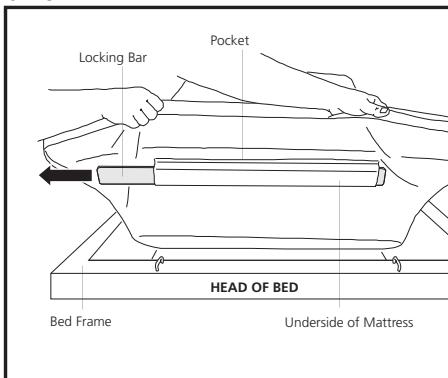

Figure 1
2. Slide locking bar located in pocket on underside of head-end of mattress to one side, as shown at right (Figure 1).